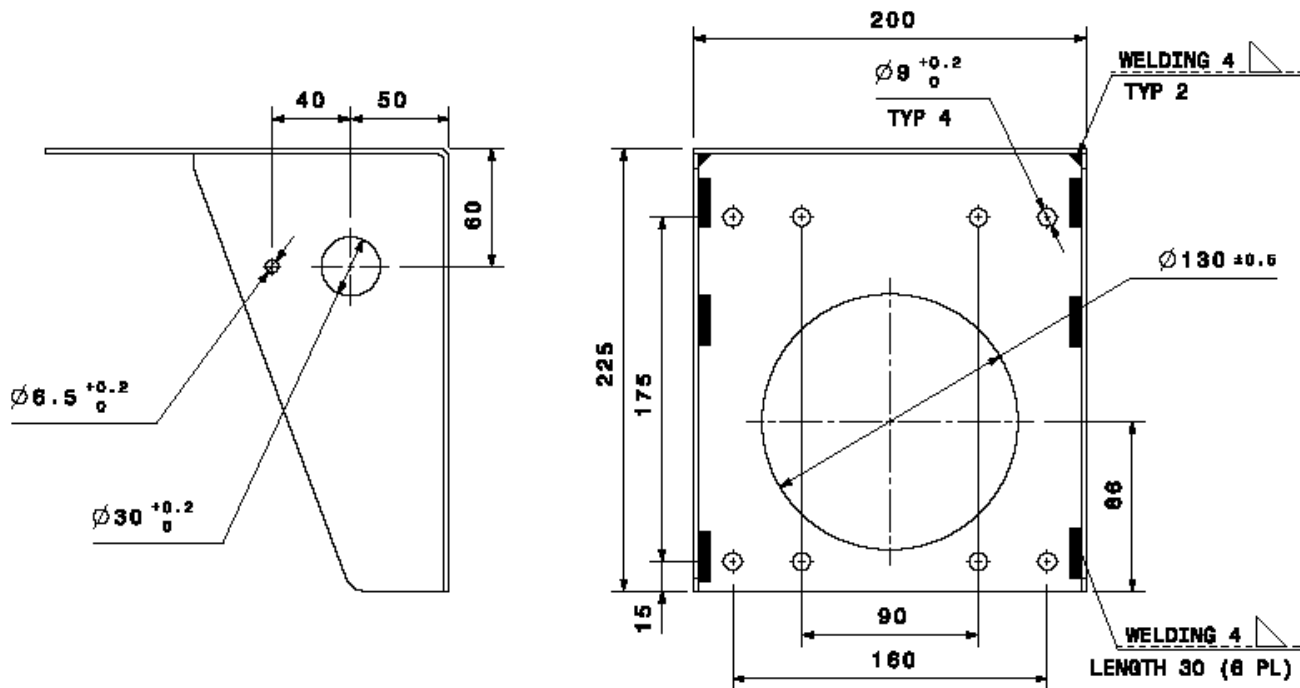
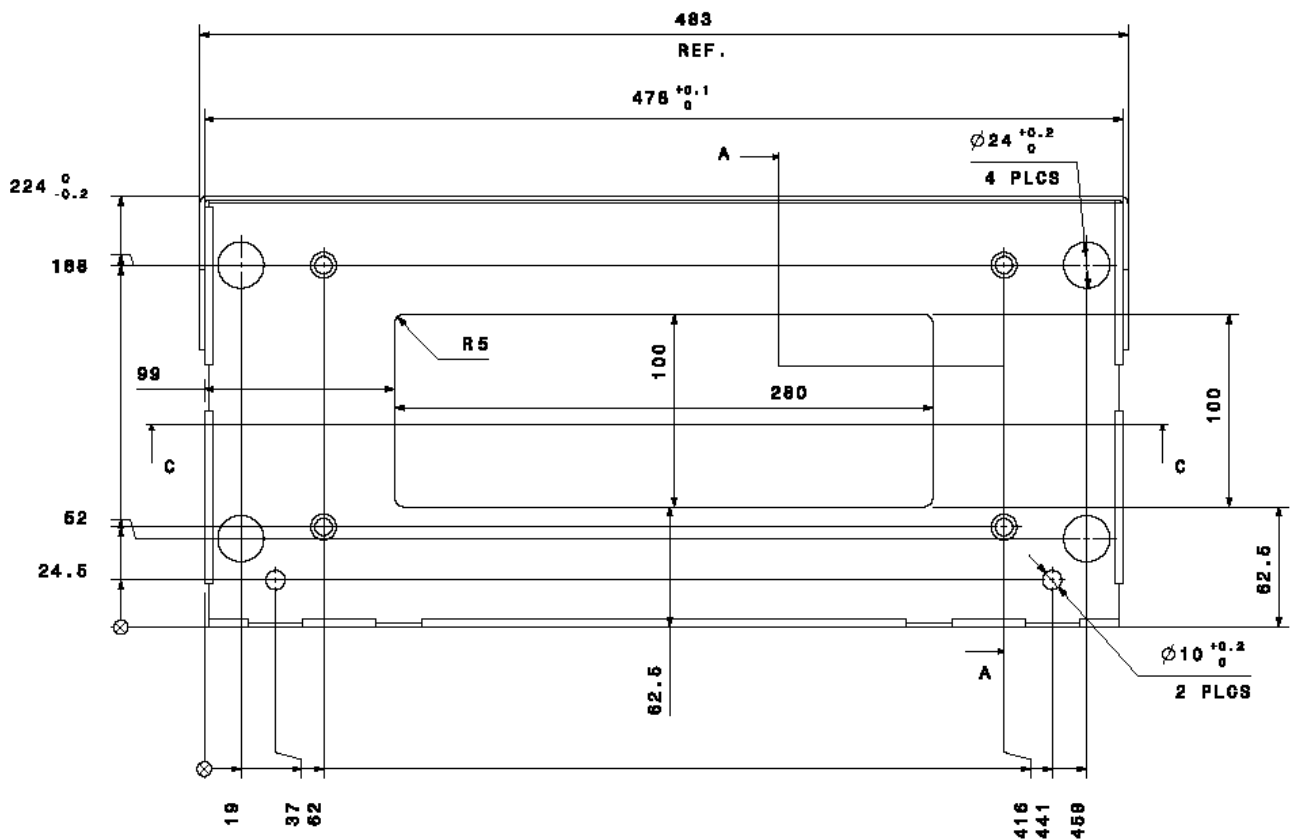

Figure 2-12. Antenna Mount Installation
Figure 2-13. Mounting Tray Installation
2.3.2.2 Mountings Installations (See Figure 2-12 to Figure 2-13)
- a. According to mechanical design, place one antenna mount on the left side of the shelter, and set it using four bolts, spring washers, flat washers and nuts or by welding (see Figure 2-12).
- e. Attach the mounting tray to the vehicle roof using four bolts, spring washers, flat washers and nuts or by welding (see Figure 2-13).